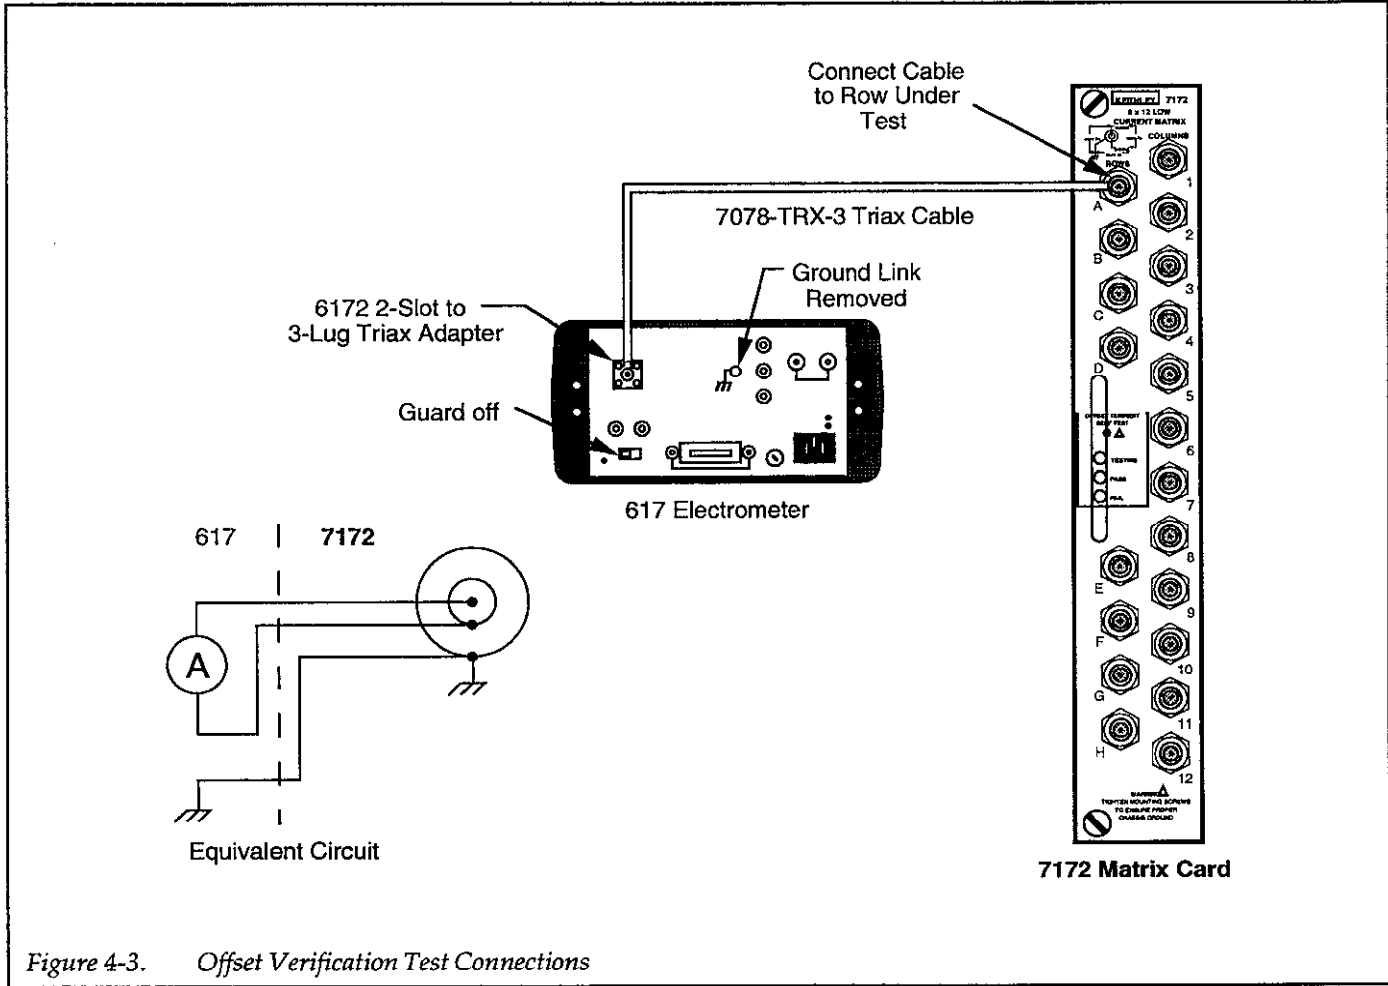

Figure 4-3. Offset Verification Test Connections
Figure 4-3 shows the test connections for offset current verification. The Model 7172 row being tested is to be connected to the Model 617 Electrometer input through the triaxial cable and the triaxial adapter. Note that the electrometer ground strap is to be removed, and the electrometer should be operated in the unguarded mode.
4. Connect the Model 617 to row A of the Model 7172, as shown in Figure 4-3.